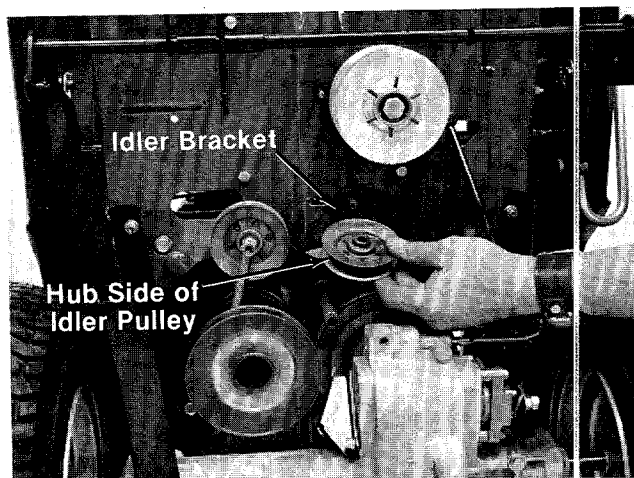

FIGURE 37.
12. Upon reassembly of idler pulley, be certain the hub side of idler goes against the idler bracket. See figure 37.